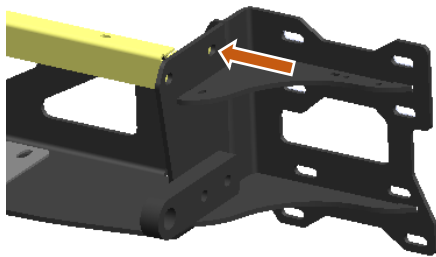

Figure 29: Bumper Support Installation
26. Install the bumper support onto the winch tray using the back two (2) holes and ½" hardware to fasten (Figure 29).